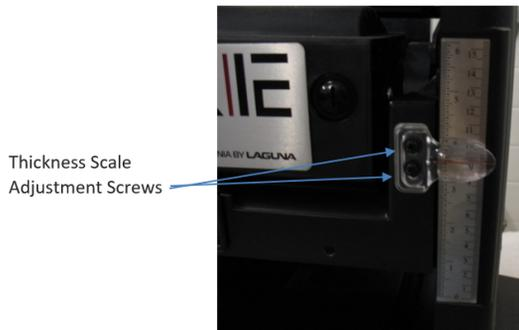

Figure 7: Thickness Scale Calibration
9. Loosen the two screws of the Thickness Scale pointer and adjust the pointer (Fig. 7) until it corresponds to the measured thickness and tighten the screws.